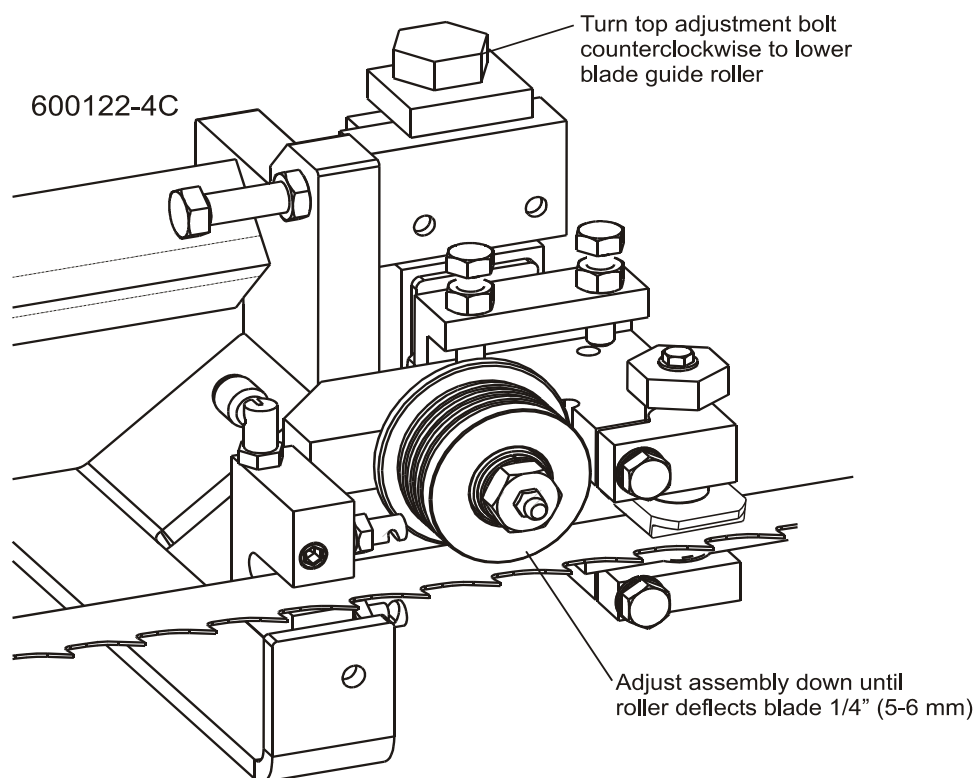

FIG. 7-19
**See Figure 7-19.** Loosen the jam nuts on the top and bottom vertical tilt adjustment screws. To tilt the roller up, loosen the bottom screw and tighten top screw. To tilt the roller down, loosen the top screw and tighten the bottom screw. Tighten the jam nuts and recheck the tilt of the blade.